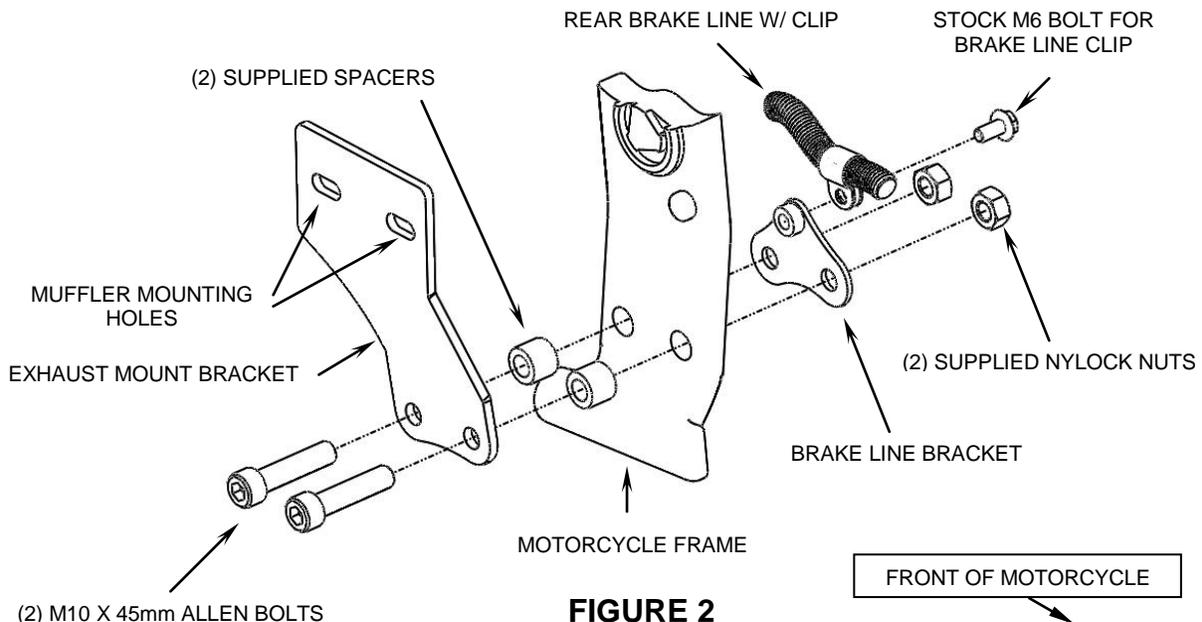

FIGURE 2
5. Install the new exhaust mount bracket by inserting the (2) supplied M10 x 45mm allen bolts through the exhaust mount, (2) supplied spacers, frame holes and through the supplied brake-line bracket on the backside; secure the M10 bolts with the (2) supplied nylock hex nuts but **DO NOT TIGHTEN** at this time. Connect the brake hose clip to the bracket using the stock M6 bolt. Refer to Figure 2.